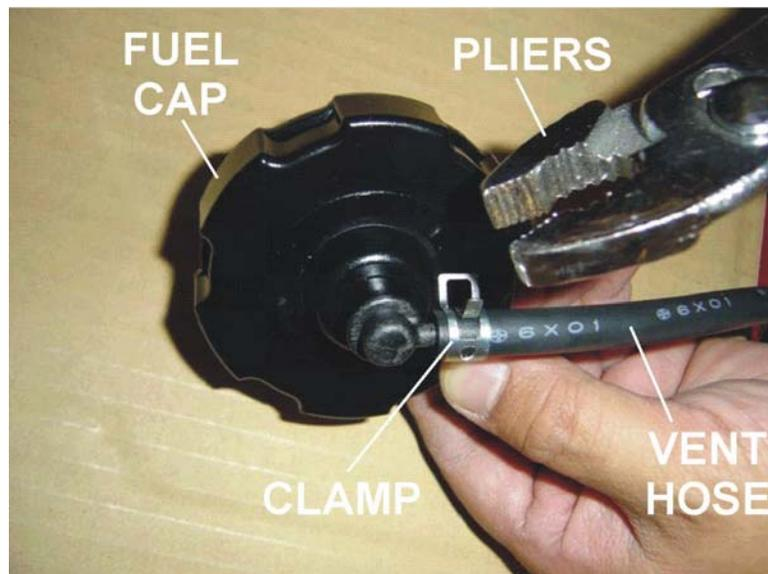

Figure 1. Fuel Cap Removal
2. Next, using pliers, grip and squeeze the tabs on the retaining clamp (Figure 1) and slide clamp backwards on the vent hose away from the fuel cap. Pull off the vent hose removing it from the fuel cap vent inlet.